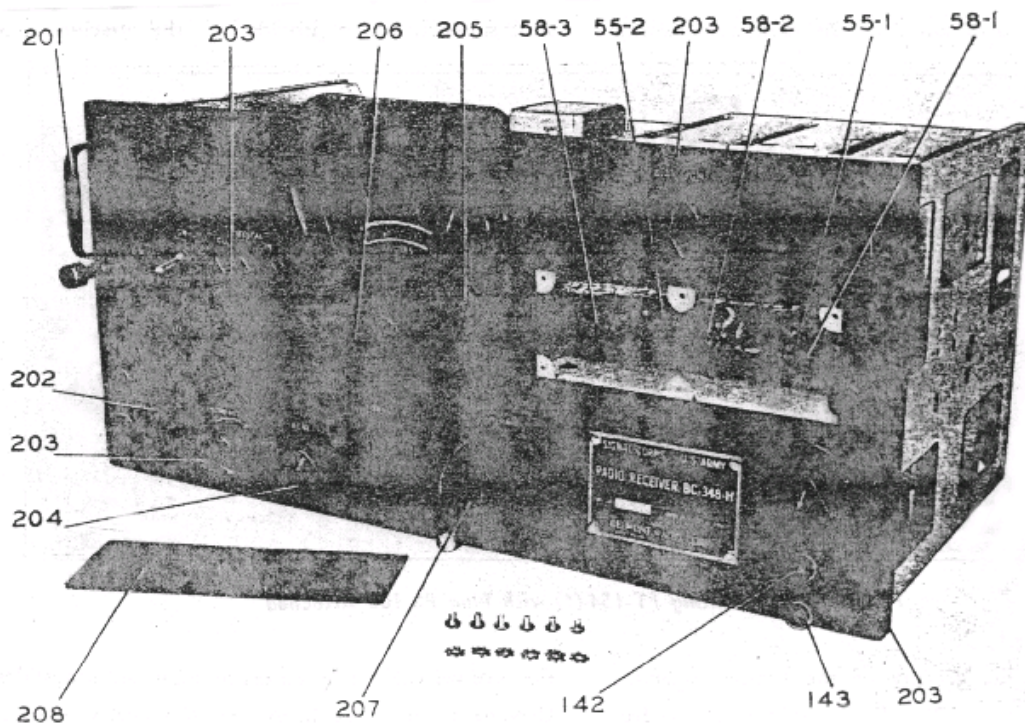

Figure 1-3 Radio Receiver BC-348-(*) or BC-224-(*) -- Front View of Chassis with the Tube Shell Cover Removed
c. **PANEL.**--The front panel is attached to the chassis and to the end plates by screws. Two handles are mounted on the panel. A cutout, covered by a plate, is provided to give access to the wiring under the r-f tube shelf for servicing and maintenance. (See figure 1-3.) The following panel items are mounted on the front of the panel: Antenna and ground binding posts; antenna alignment control "ANT ALIGN"; dial lights rheostat control "DIAL LIGHTS"; tuning control "TUNING"; band switch control "BAND SWITCH"; dial window housing which covers the dial lights; beat frequency control "BEAT FREQ"; crystal filter control "OUT-CRYSTAL-IN"; volume control "INCREASE VOL; AVC-OFF-MVC" control; "C.W. OSC" control; and two telephone jacks "TEL."